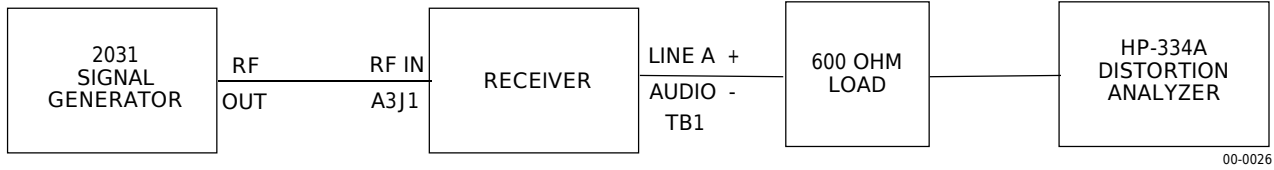

Figure 7-5. Audio Distortion Performance Test Equipment Connection
1. Connect the WJ-8710A Receiver and test equipment as illustrated in **Figure 7-5**.